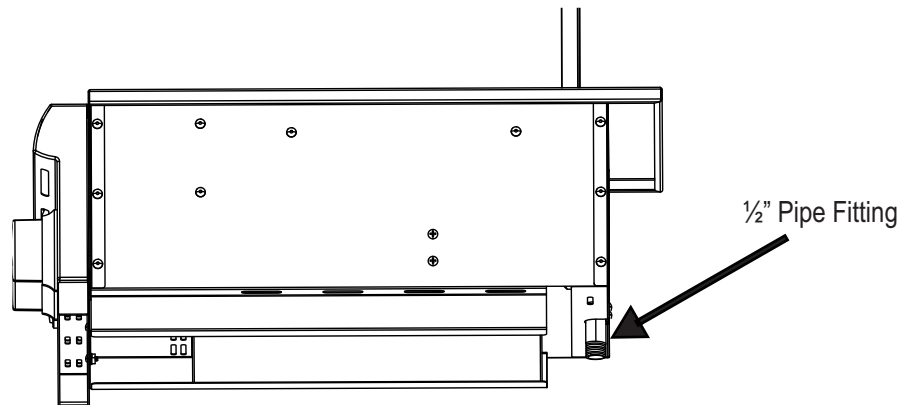

Figure 5
2. Remove the plastic protective cap from the $\frac{1}{2}$ " pipe fitting connection found at the bottom of the right rear corner of the side burner (see Figure 5).